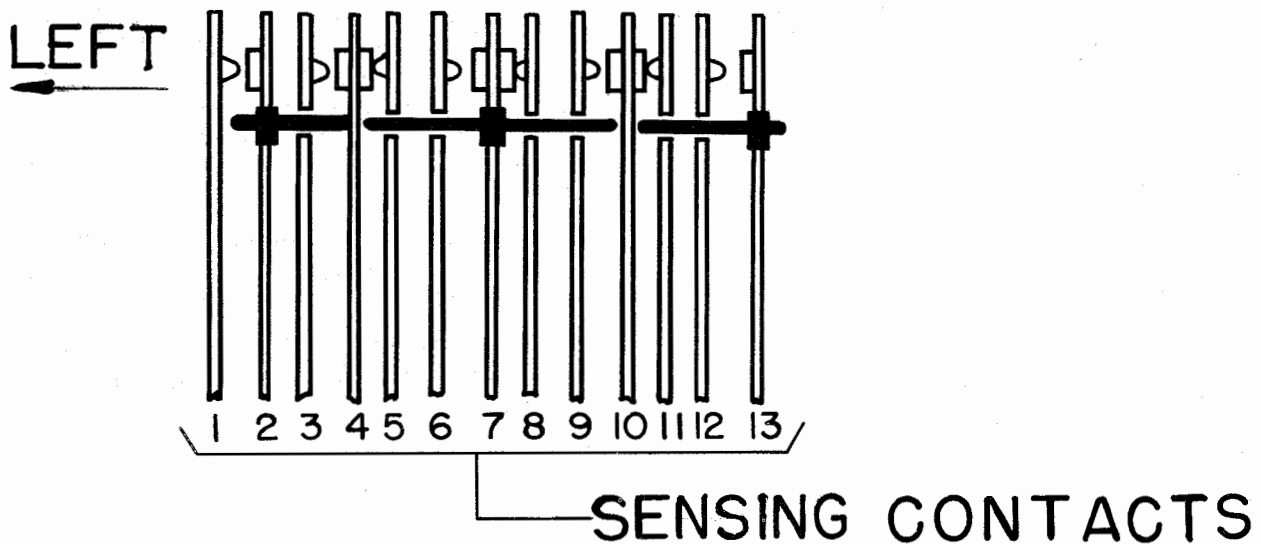

Figure 78
- (c) The spring studs shall clear the springs through which they pass in all positions of stud travel. See Figure 78.
2.155 Sensing-contact Springs (Detailed Requirements): (General Requirements 2.154.) Refer to Figure 78 for the position and number of contacts which apply in the following adjustments. See also 2.151.
(e) With the slide levers in their Spacing (lower) position, adjacent spring contacts No. 1 and 2, 3 and 4, 6 and 7, 9 and 10, 12 and 13 shall make contact when a 0.035-inch gauge is inserted between the transfer-slide eccentrics and their respective studs. The same spring contacts shall not make contact when a 0.025-inch gauge is inserted between the transfer-slide eccentrics and their respective studs. See Figure 78.